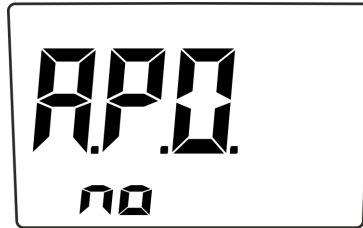

Fig. 36: Disabling Auto Power OFF function
3. The “A.P.O no” message is shown on the display for a few seconds (see Fig. 36), the instrument automatically switches on in measuring mode and the “P” symbol (see Fig. 2 – part 14) disappears from the display. The function is automatically restored when re-booting the instrument